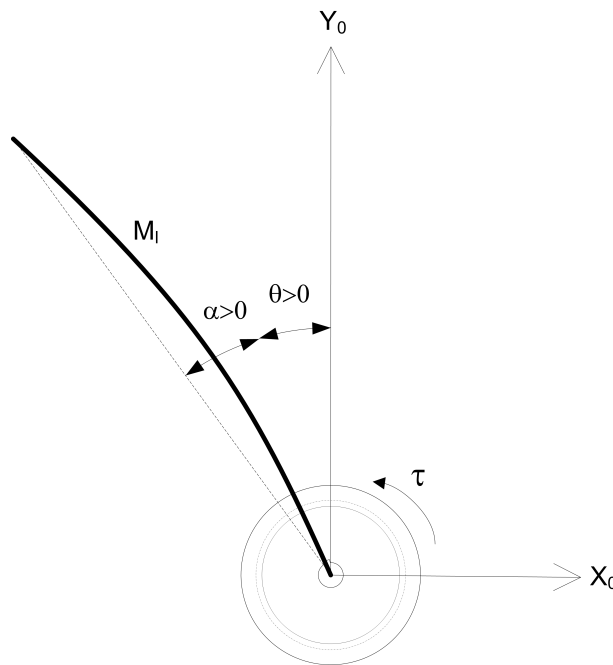
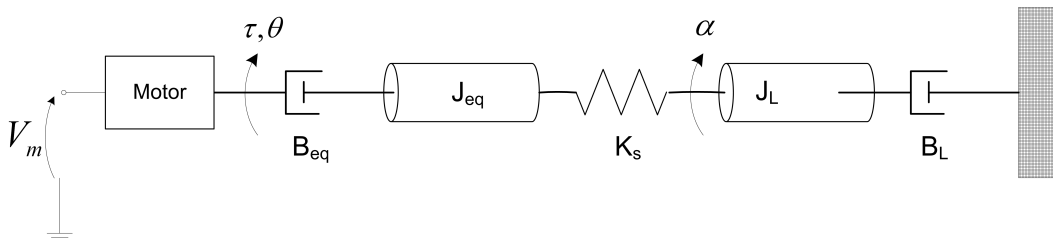

Figure 2.1: Rotary Flexible Link Angles
Figure 2.2: Rotary Flexible Link Model
The Rotary Flexible Link model is shown in Figure 2.1. The base of the flexible link is mounted on the load gear of the SRV02 system. The servo angle,  $\theta$ , increases positively when it rotates counter-clockwise (CCW). The servo (and thus the link) turn in the CCW direction when the control voltage is positive, i.e.,  $V_m > 0$ .
The flexible link system can be represented by the diagram shown in Figure 2.2. Our control variable is the input servo motor voltage,  $V_m$ . This generates a torque,  $\tau$ , at the load gear of the servo that rotates the base of the link. The viscous friction coefficient of the servo is denoted by  $B_{eq}$ . This is the friction that opposes the torque being applied at the servo load gear. The friction acting on the link is represented by the viscous damping coefficient  $B_l$ . Finally, the flexible link is modeled as a linear spring with the stiffness  $K_s$ .
where, as shown in Figure 2.2,  $\theta(t)$  is the servo angle and  $\alpha(t)$  is the flexible link angle. The corresponding velocities are
1. Energy is stored in the flexible link, i.e., the "spring", as it *flexes* by an angle of  $\alpha$  (see Figure 2.1). Find the potential energy of the flexible link. Use the parameters shown in Figure 2.2.
2. Find the total kinetic energy of the system contributed by the rotary servo,  $\theta$ , and the deflection in the link,  $\alpha$ . Use the parameters shown in Figure 2.2.